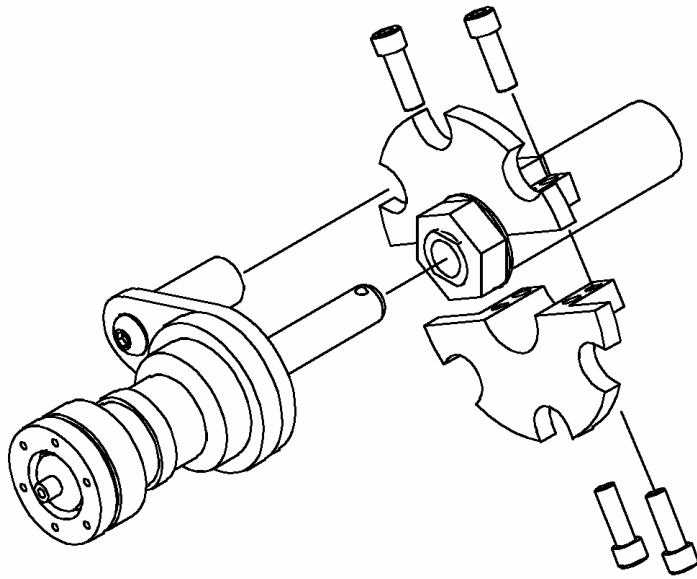
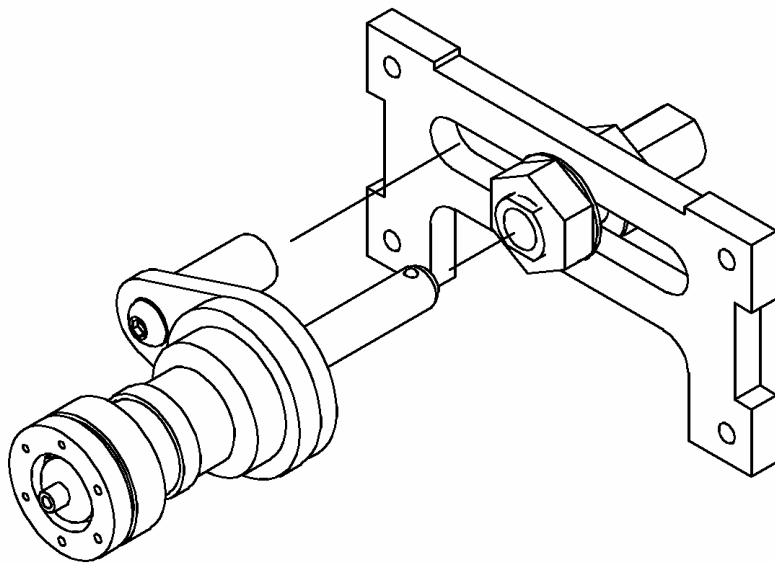

Figure 2 (Standard Adaptor)
Figure 3 (Axle Plate)
Your 2-gear wheels will utilize your wheelchair's existing axle mounting system. However, **MAGICWHEELS™** 2-gear wheelchair drive's unique geared transmission may require a small adaptor (See Figure 2) installed onto the frame of your wheelchair to keep the anti-rotation pin from turning and allow proper shifting.
If your wheelchair has an axle plate (Figure 3) then you do not need an adaptor. The pin is made to fit into the elongated slot in your axle plate next to where the axle goes into your wheelchair.
4. Rotate the wheel until the Pin (Figure 1) lines up with either the axle plate opening (Figure 3) or the notch in the adaptor (Figure 2). Push the wheel completely into the axle receiver until the button in the center of the wheel pops out.